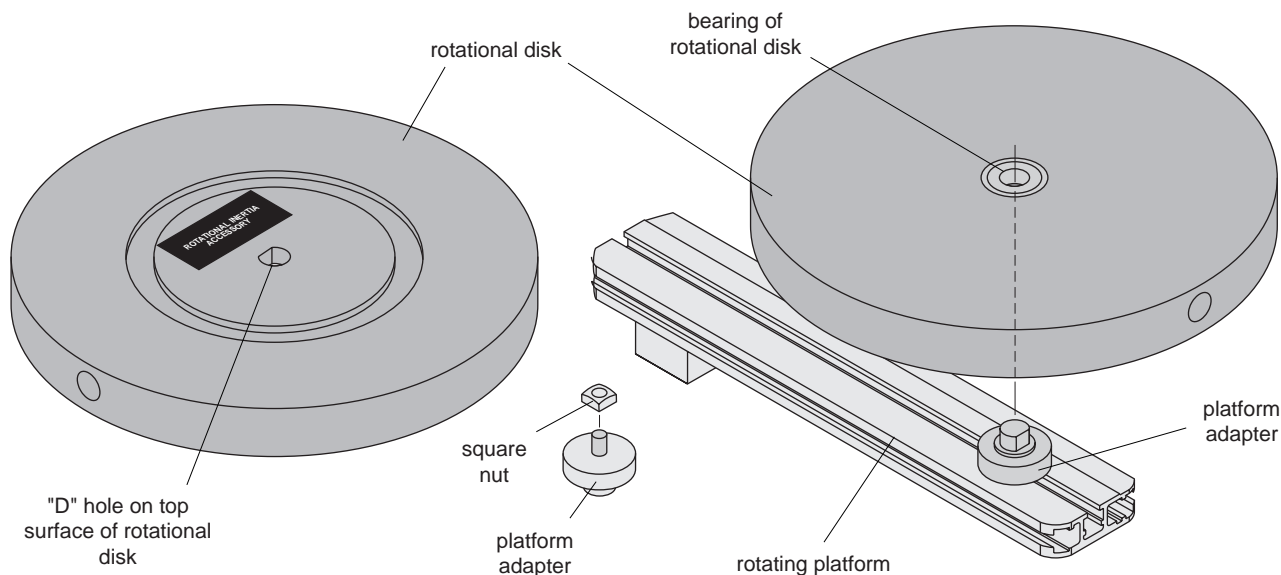

Figure 8: Rotational Inertia Accessory Including Platform Adapter Assembly
- ① Attach the square nut (supplied with the Rotational Inertia Accessory) to the platform adapter.
- ② Position the platform adapter at the desired radius as shown in Figure 8.
- ③ Grip the knurled edge of the platform adapter and tighten.